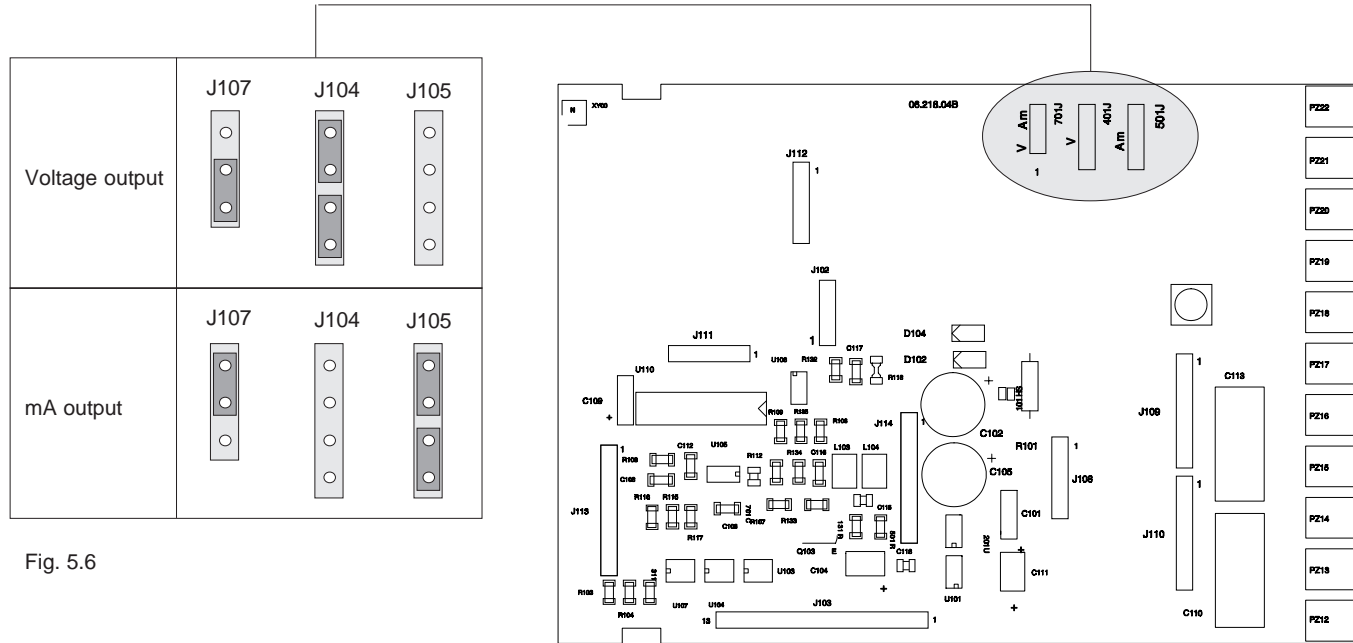

Fig. 5.6
- Set J104, J105 and J107 on the option card as shown in fig. 5.6
- b) Set J104, J105 and J107 on the option card as shown in fig. 5.6